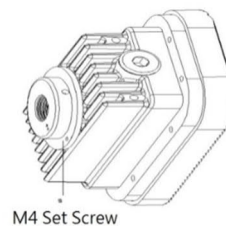

Figure 1
- Loosen the M4 set screw of Top Cover of the luminaire. (Figure 1)